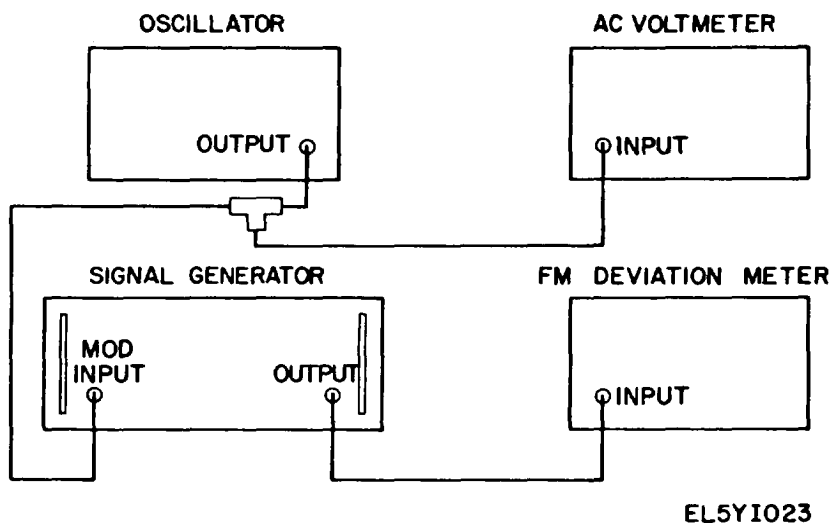

FIG 9-13. TEST SETUP, EXTERNAL FM
- a. Connect the equipment as shown in figure 9-13.